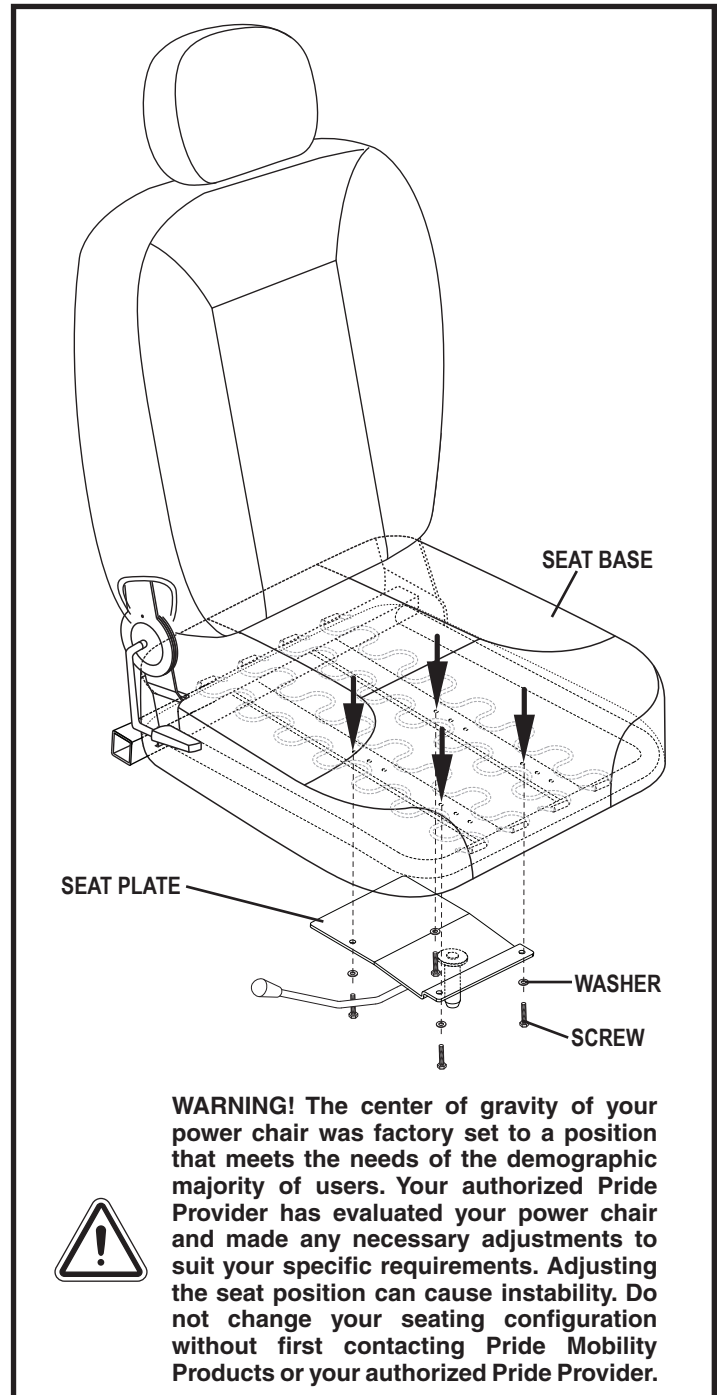

Figure 12. Seat Position Adjustment
16. Remove the screws and washers from the bottom of the seat plate. See figure 12.